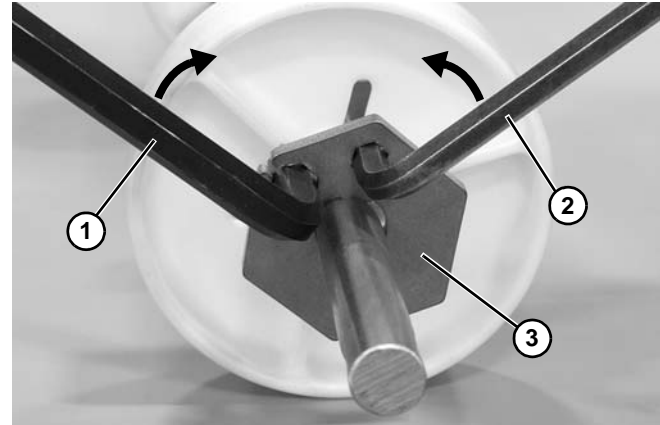

Figure 133
- a. Insert an 8 mm (**Figure 133, item 1**) and 6 mm (**Figure 133, item 2**) hex wrench into the retainer plate.
- b. Move wrenches toward each other to open the retainer plate (**Figure 133, item 3**) and install onto the shaft. Position retainer plate where needed.